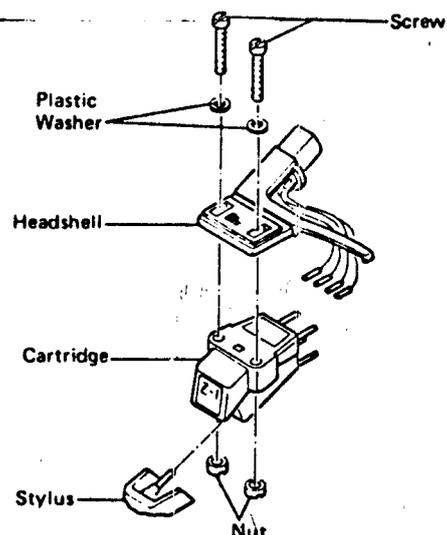

Fig. 8
2. Remove the two long screws on the headshell which hold the cartridge. (Fig. 8)